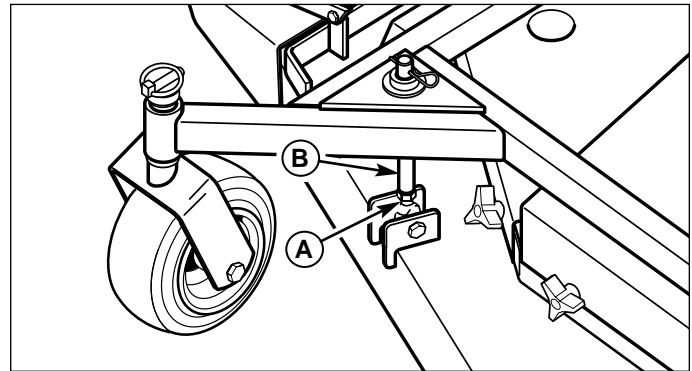

Figure 19. Front Hanger Shaft Adjustment
3. Loosen the jam nuts (A, Figure 19) located on the front deck hanger shafts (B). Turn the right side shaft until a cutting height of 2" is obtained at the very tip of the blade towards the front of the machine.